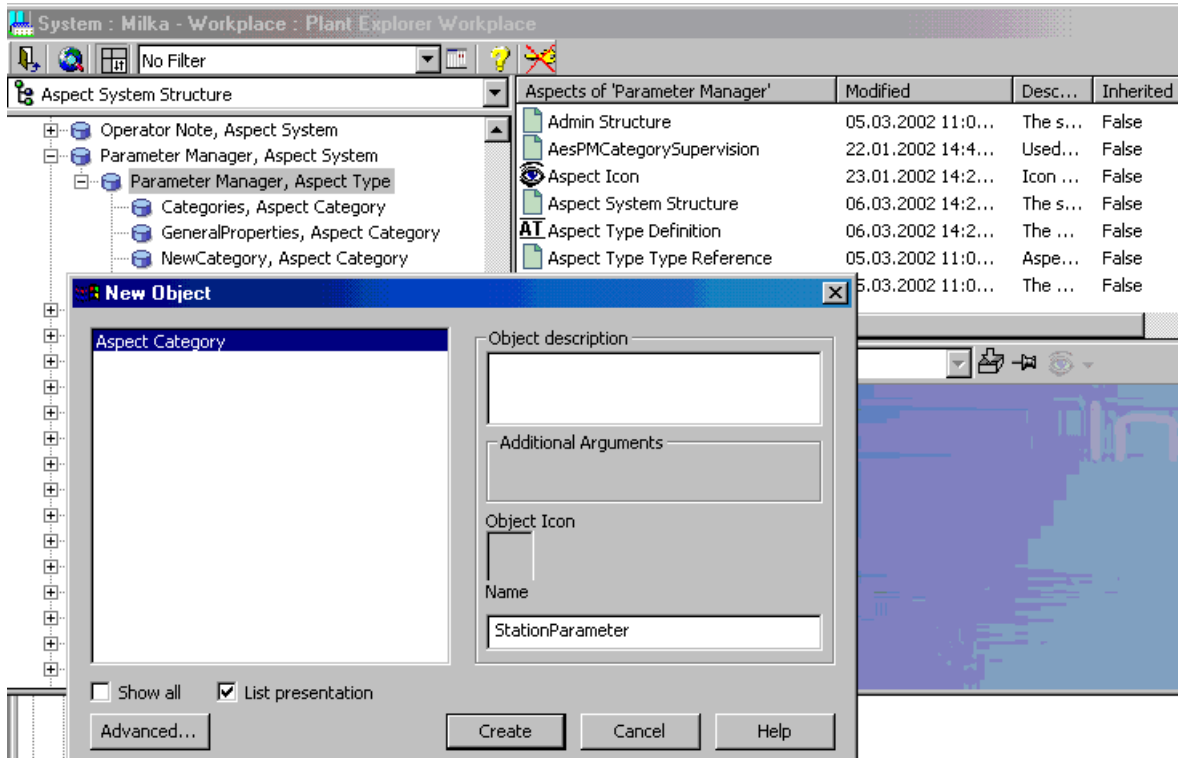

Figure 109. Create a New Parameter Category Object
1. Select the **Parameter** object in the Aspect System Structure (see Figure 109), right-click the mouse and select **New Object...**
2. Enter a name and click **Create**. A new parameter category is created (see also Figure 109)